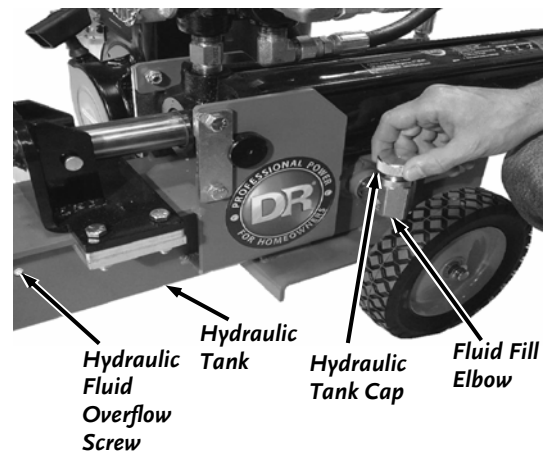

Figure 21
16. Remove the Hydraulic Fluid Overflow Screw from the side of the Tank (**Figure 21**).